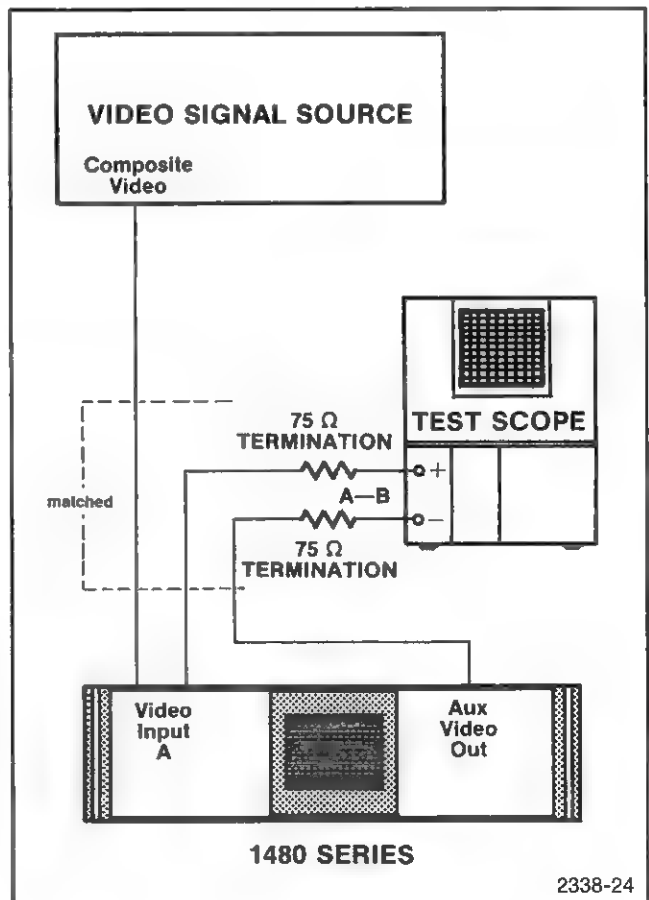

Fig. 5-2. Setup for 1480-Series Gain Measurement.
a. Connect the video signal source and test oscilloscope as shown in Fig. 5-2.